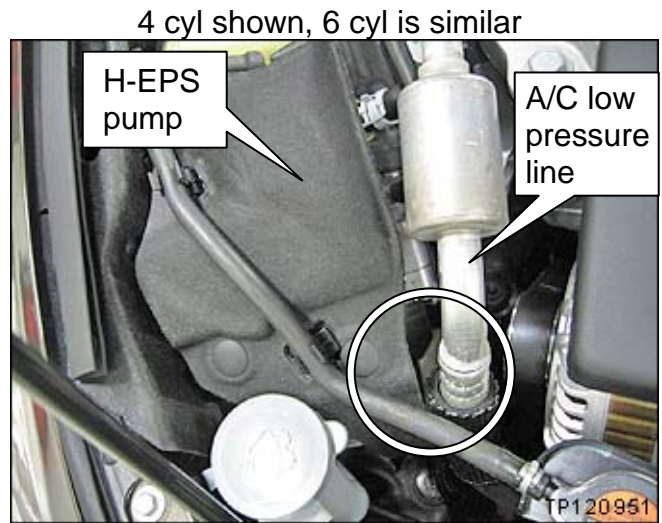

Figure 6
- Check the location circled in Figure 6.